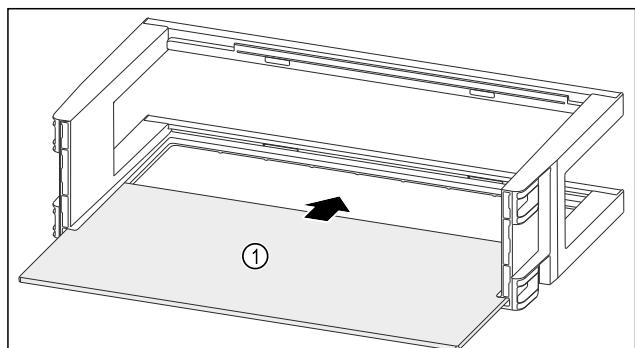

Fig. 124
- Push the shelf Fig. 124 (1) into the side recesses.